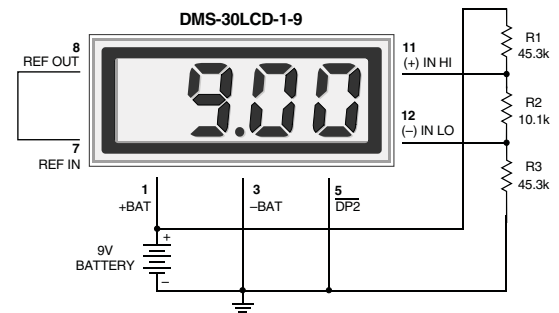

Figure 8. Power Supply Monitor (9V-Powered Models)
6. Power Supply Monitoring: A popular application for DATEL's low-power LCD meters is monitoring the supply voltage in battery-operated portable equipment. Figure 8 demonstrates how a 9V-powered DMS-30LCD can be used to monitor its own supply. The meter used is the DMS-30LCD-1-9. A three-resistor voltage divider is used to attenuate the battery voltage and also to satisfy the requirement that the input voltages applied to pins 12 and 11 be at least 1.5 Volts above and below the battery voltage applied to pins 1 (+BATTERY) and 3 (-BATTERY). The divider should be designed so that 1/10th the battery voltage falls across the inputs to the meter: